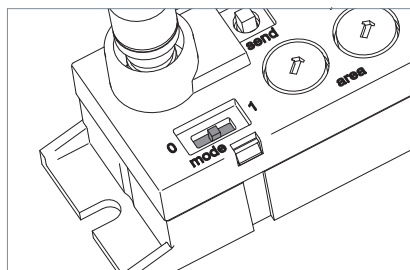

Fig. 13: Luminaire communication activated.
- Slide the "mode" slide switch to position **1**, see Fig. 13.